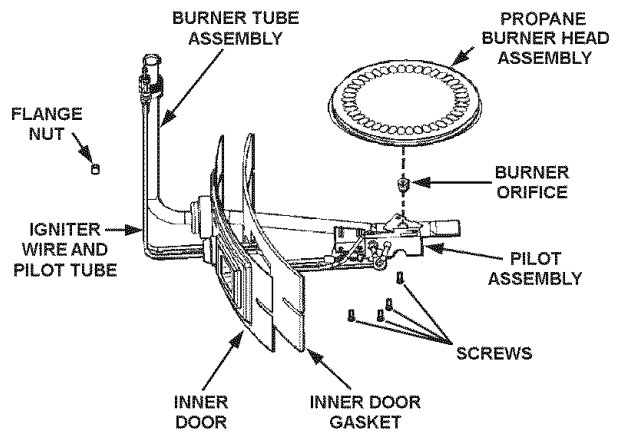

FIGURE 23.
- Remove the two Phillips-head screws holding the natural burner head to the burner tube assembly, see Figure 23.
- Using 3/8" boxed-end wrench remove the natural gas burner orifice from the burner tube. Install burner orifice marked "LP" and tighten securely, see Figure 23.
- Locate and install the propane burner head to the burner tube using the two Phillips-head screws, see Figure 23.